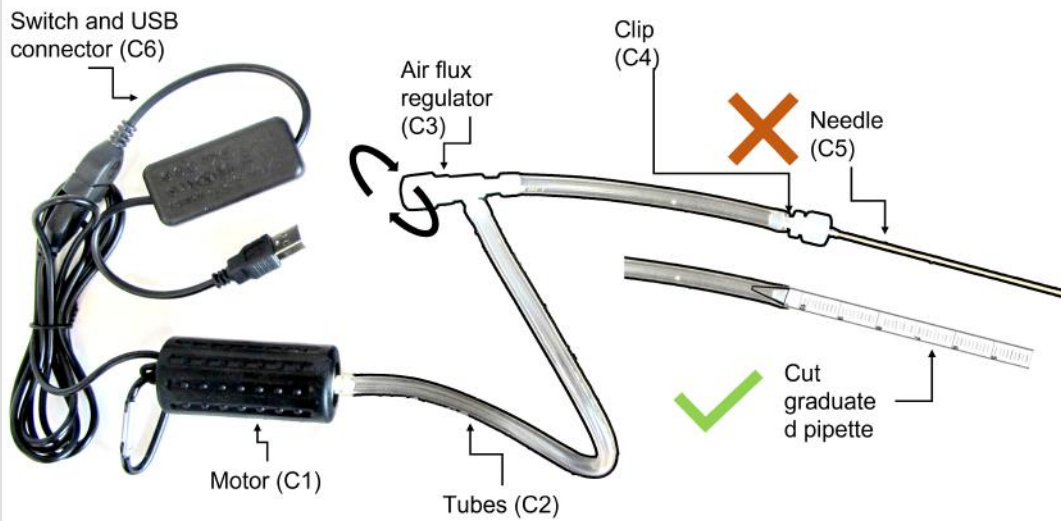

Figure 7: The bubbler
1. Assemble the bubbler like in the image below (Fig.7). **It is recommended to use a cut glass pipette or something similar instead of the needle** provided because the needle can be clogged and does not allow a good control on the air flux.